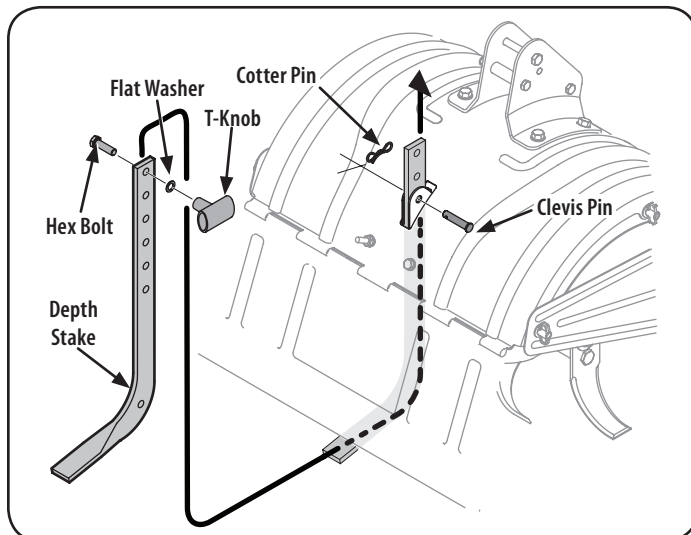

Figure 1
2. Unthread the "T" knob from the top of the depth stake and remove the flat washer and hex bolt. Remove the cotter pin from the clevis pin. See Figure 1.
5. Insert the hex bolt into the top hole of the depth stake assembly. Place the flat washer on the hex bolt and thread the T-knob onto the hex bolt. Tighten securely. See Figure 1.